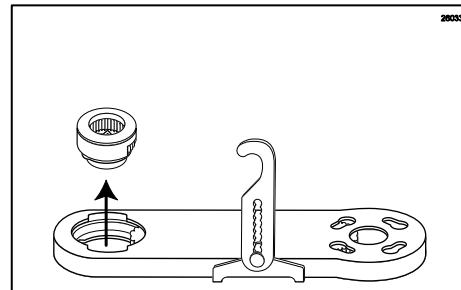

Figure 29
4. Remove the Gear Cartridge from the Gear Box. (See Figure 29.)